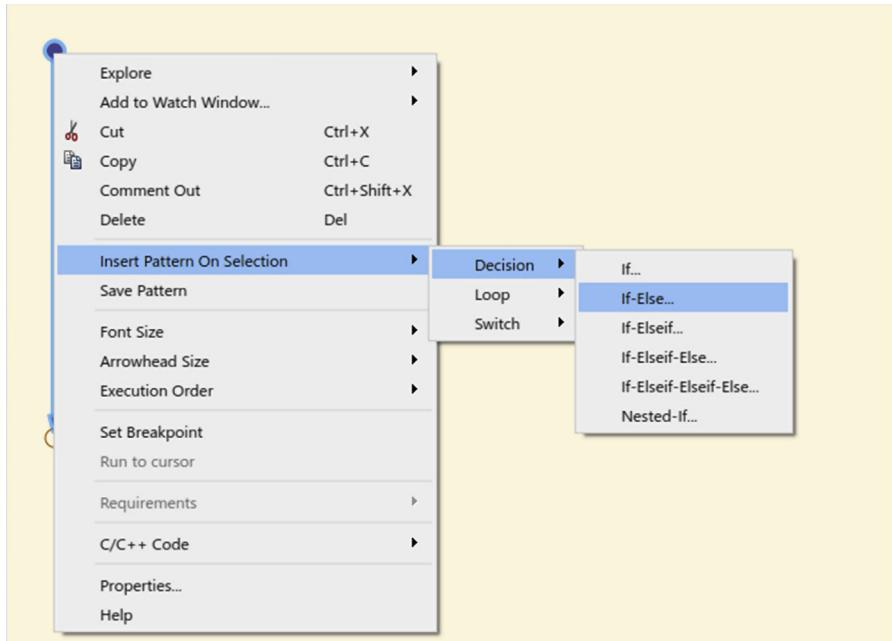

Figure 10.40 Selecting the If-Else decision pattern for stateflow.
19. Right click on the solid blue (gray in print version) dot which is the initial state and select the If-Else option as shown in Fig. 10.40.